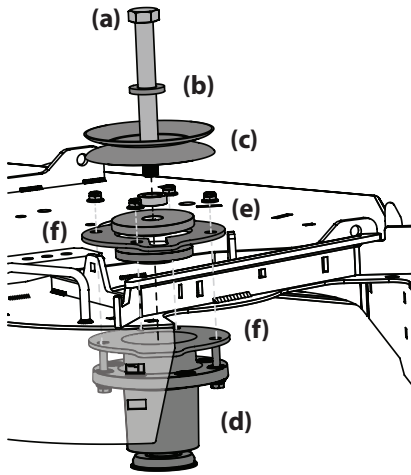

Figure 24
6. Remove the hex lock screw (a) and flat washer (b) securing the spindle pulley (c) to the spindle assembly (d). See Figure 24.
7. Remove the four (4) flange lock nuts (e) securing the spindle assembly (d) and the two support plates (f) to the deck shell (g). See Figure 24.
8. Reverse the process to install the spindle assembly. When installing the new spindle assembly be sure to install the hardware exactly as shown in Figure 24. Torque the hex lock screw (a) to 90-110 ft-lbs and the flange lock nuts (e) to 13-20 ft-lbs.